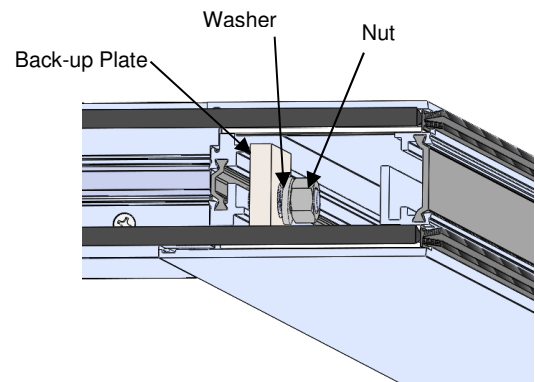

Figure 11:
- Slide the back-up plate over the threaded rod. Followed by the washer and nut (Figure 11).